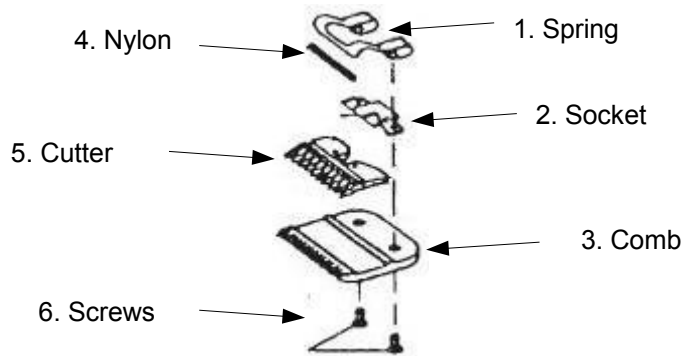

Fig. 2
a. Disassemble the blade to be sharpened, cleaning it thoroughly, especially between the comb teeth and the cutter (fig. 2).